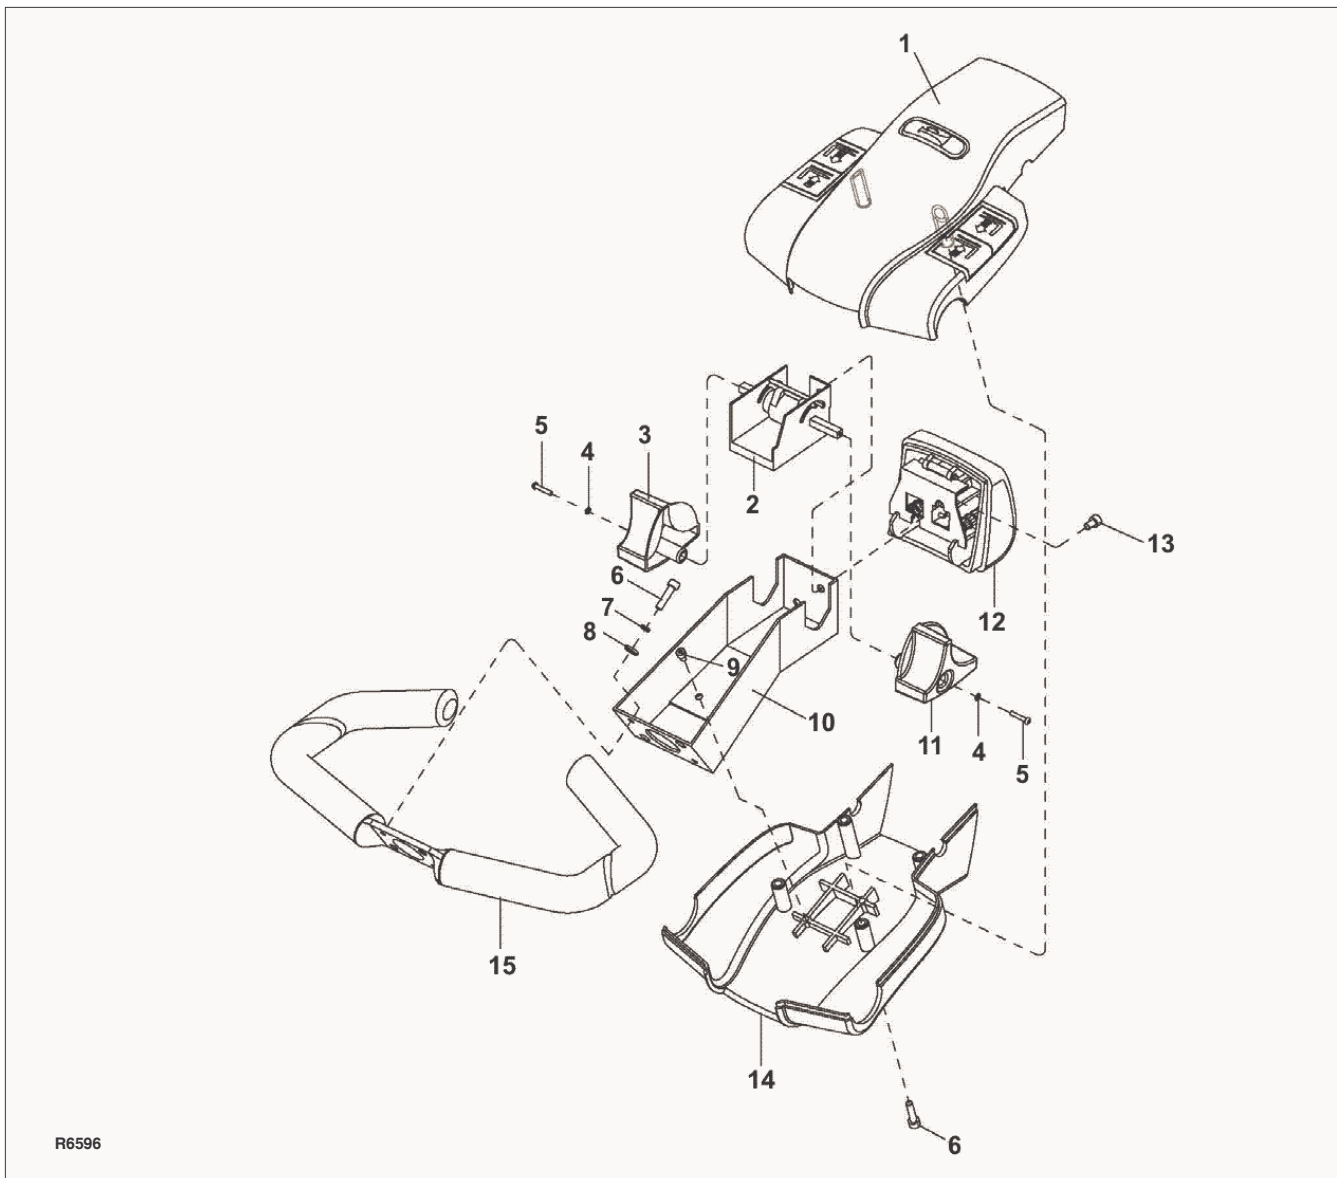
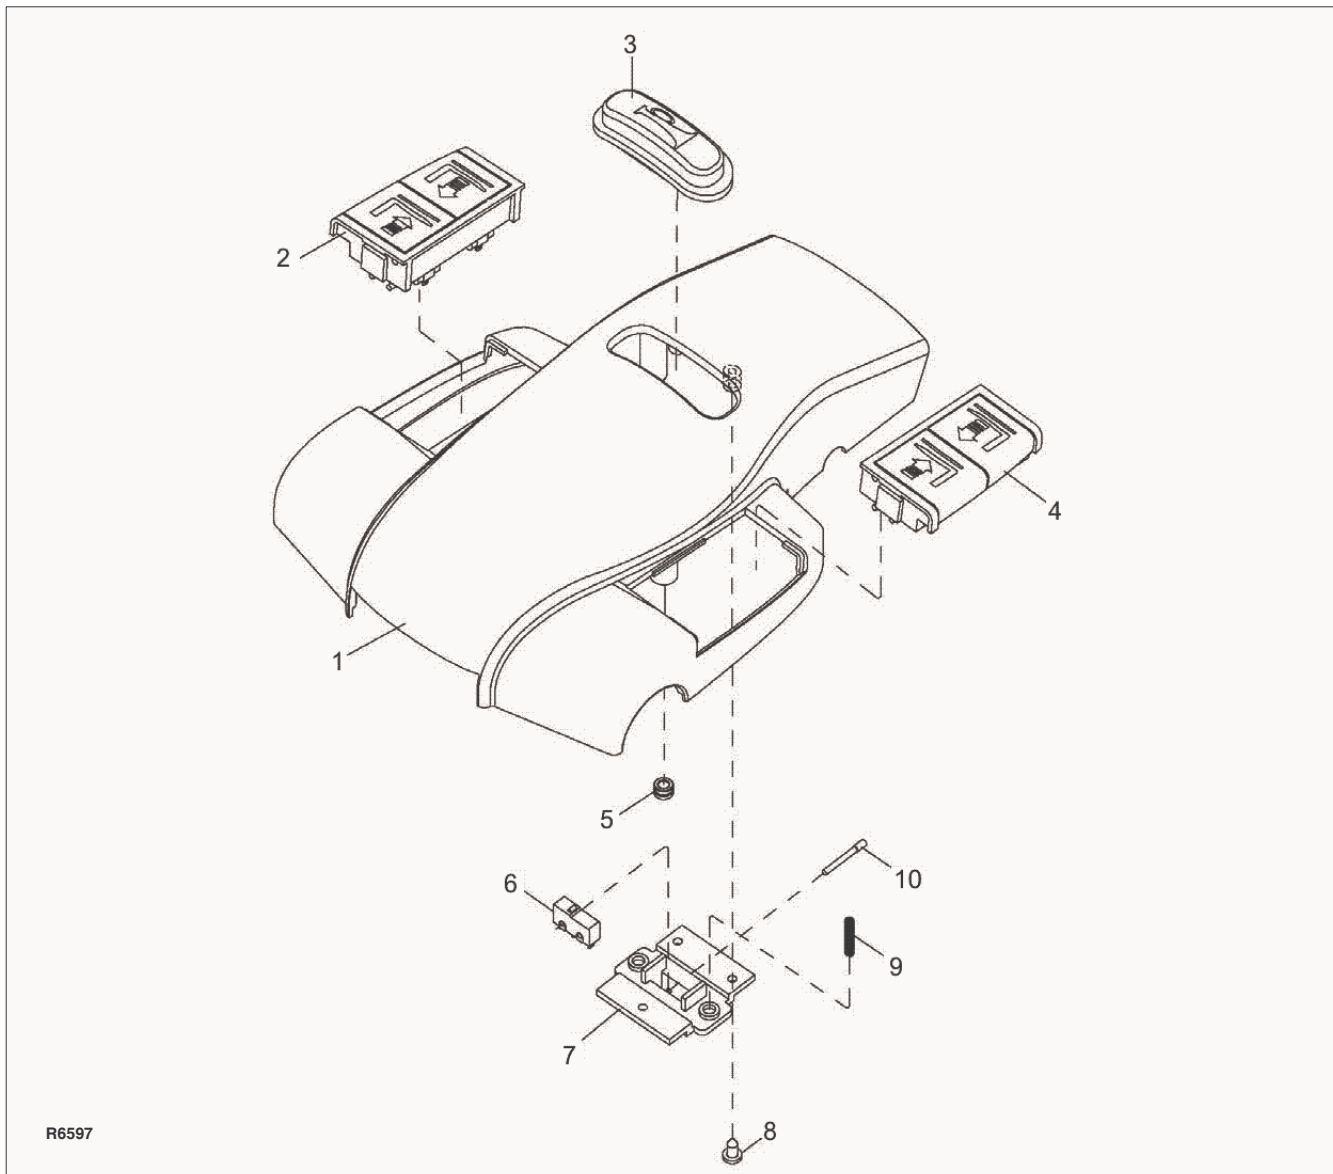
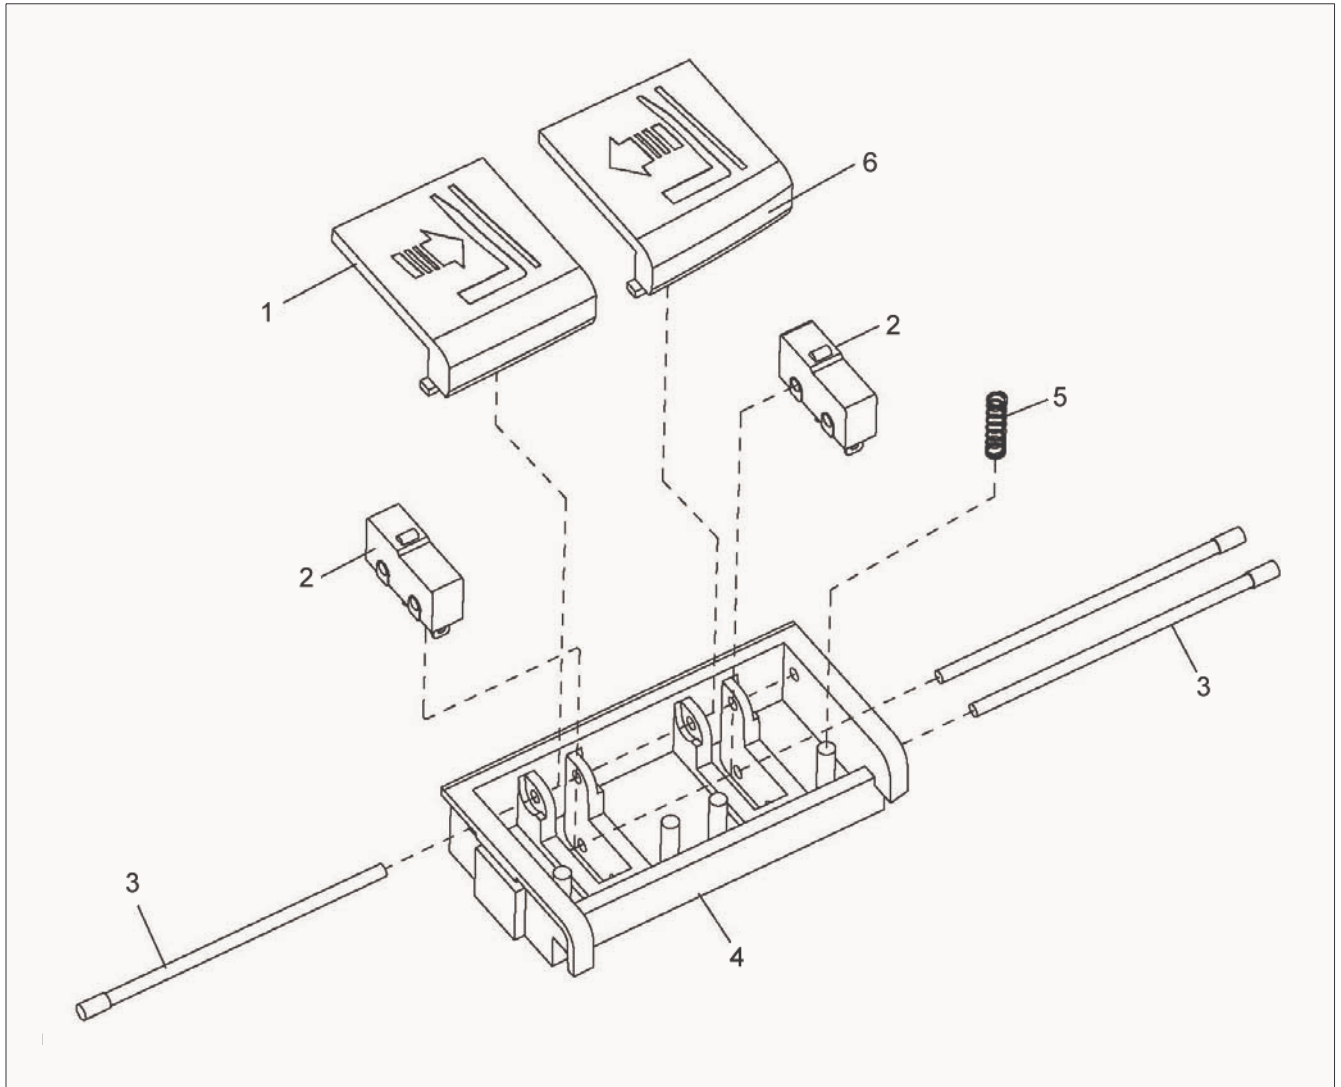

Figure 5-2 Control Head
Figure 5-4 Cap Assembly
Figure 5-5 Left Lift/Lower Switch Assy (Right Similar)
3. Remove two screws (6, Figure 5-2), two washers (7) and two flat washers (8).
4. Disconnect harness (10, Figure 12-21) from harness (13) and remove the control head and handle (15, Figure 5-2).
2. Secure control head and handle (15, Figure 5-2) with two screws (6), two washers (7) and two flat washers (8).
2. Remove four screws (6, Figure 5-2) and lift up cap assembly (1) and disconnect harness (10, Figure 12-21) from harness (9).
1. Hold cap assembly (1, Figure 5-2) in place and connect harness (10, Figure 12-21) to harness (9).
3. Remove two screws (13, Figure 5-2) and remove switch assembly (12) from bracket (10).
8. Position bracket (5) in button (1) and install pin (6).
9. Position switch assembly (12, Figure 5-2) on bracket (10) and secure with two screws (13).
2. Remove three screws (8, Figure 5-4), bracket (7) and spring (9).
3. Remove two pins (10) and switch (6) from bracket (7).
4. Disconnect harness (9, Figure 12-21) from switch (6, Figure 5-2) and connect it to the new switch.
5. Position the new switch (6) in bracket (7) and secure with two pins (10).
6. Position bracket (7) in cover (1) and secure with three screws (8).
2. Disconnect harness (9, Figure 12-21) from switch assembly (2 or 4, Figure 5-4).
3. Remove pin (3, Figure 5-5) and switch assembly (2 or 4, Figure 5-4) from the cap (1)
4. Remove two pins (3, Figure 5-5), two switches (2) and four springs (5) from bracket (4).
5. Position the new switches (2) and four springs (5) in bracket (4) and secure with two pins (3).
6. Position switch assembly (2 or 4, Figure 5-4) in cover (1) and secure with pin (3, Figure 5-5).
7. Connect harness (9, Figure 12-21) to switch (2 or 4, Figure 5-4).
2. Disconnect harness (10, Figure 12-21) from potentiometer (2, Figure 5-2).
3. Remove screw (5), washer (4) and control knob (3) from potentiometer (2).
4. Remove screw (5), washer (4) and control knob (11) from other side of potentiometer (2).
5. Remove two screws (13) and remove potentiometer (2) from bracket (10).
6. Position new potentiometer (2) in bracket (10) and secure with two screws (13).
7. Install control knob (3) on potentiometer (2) and secure with screw (5), and washer (4).
8. Install control knob (11) on the other side of potentiometer (2) and secure with screw (5), and washer (4).
9. Connect harness (10, Figure 12-21) to potentiometer (2, Figure 5-2).